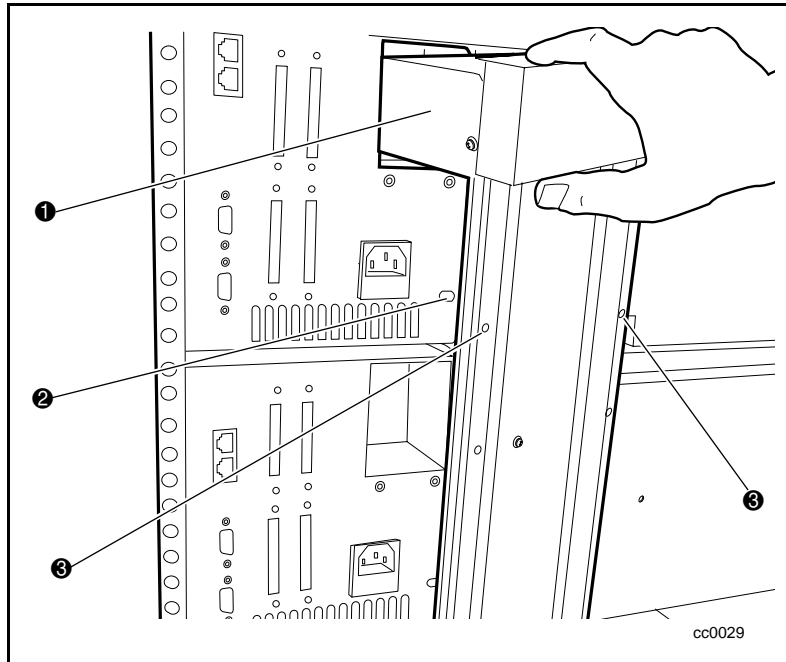

Figure C-10. Installing the PTM
6. Holding the PTM upright, position it against the rear panels so that the PTM motor housing assembly ❶ slides into the available space and the two pilot pins ❸ on the extrusion mate with the holes ❷ in the rear of the top Library unit (see Figure C-10).